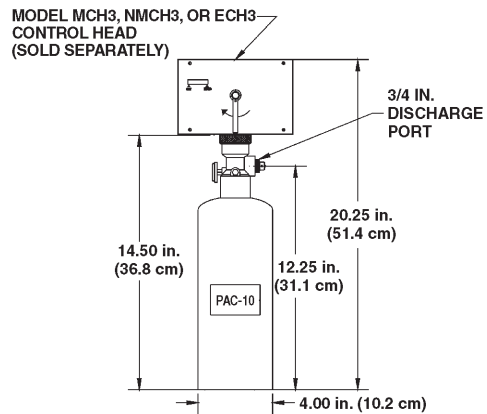

Figure 2-8. Model PAC-10 Pneumatic Actuating Cylinder.
The Model PAC-10 is a pneumatic actuating cylinder that can actuate a maximum of ten (10) agent cylinders simultaneously. The Model PAC-10 includes a DOT 4BA350 cylinder pressurized with dry nitrogen to 350 psig @ 70° F (24.1 bar @ 21 °C), a brass valve with pressure gauge, and a wall mounting bracket. A Model MCH3, NMCH3, or ECH3 control head must be purchased separately and connected to the PAC-10 to open the valve. See **Figure 2-8**.